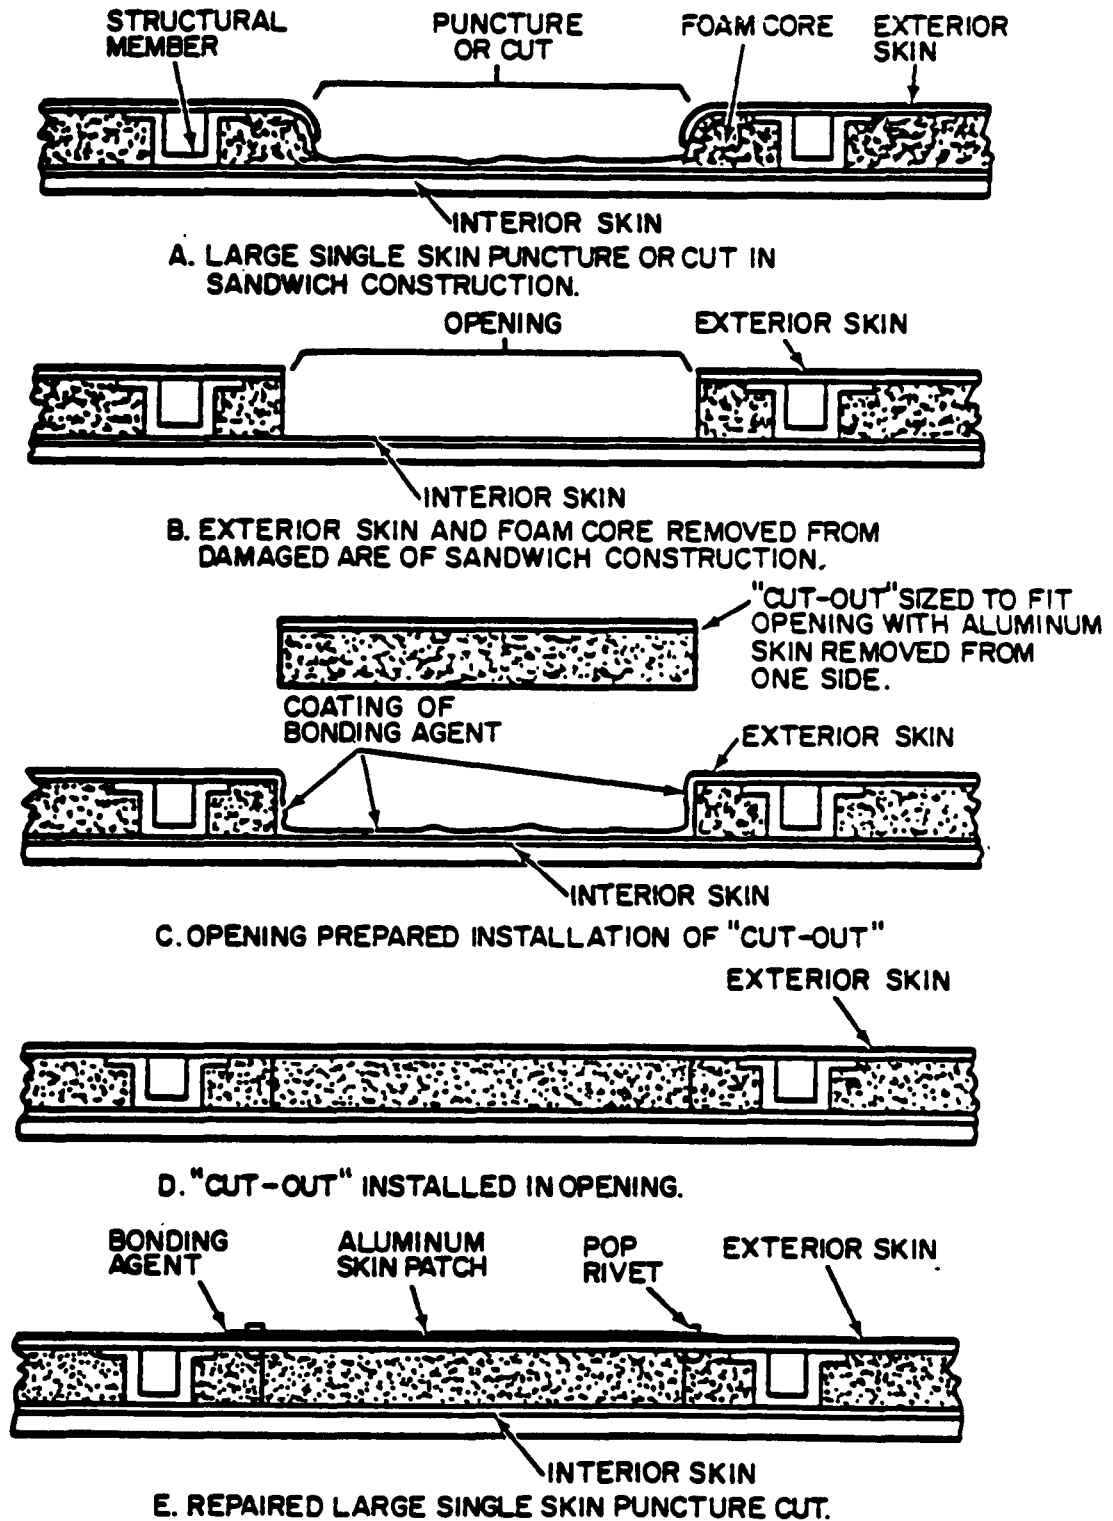

Figure 4-5. Shelter Wall Repair of Large Skin Puncture or Cut.
###### Repair. (Figure 4-5)
- (1) Select an aluminum skin patch that overlaps the puncture or cut by one inch in all directions.
- (2) Use the aluminum skin patch as a template positioned over the puncture or cut, and lightly scribe the area of the aluminum skin patch on the skin of the shelter.
- (3) Use a saw to cut and remove the punctured or cut skin area approximately one inch within the scribed mark (A and B, Figure 4-5).
- (4) Cut the foam core evenly along the edges where the skin is removed and remove the damaged foam core (B, Figure 4-5), maintaining perpendicular and straight edges.
- (5) Select a piece of block insulation or a cutout of the same type sandwich construction (C, Figure 4-5).
- (6) Size the block insulation or cutout to fit the opening where the skin and foam were removed. If a cutout is used, remove the aluminum skin from one side of the cutout.
- (7) Remove all paint or foreign matter from the overlap area on the skin of the shelter and an area approximately one inch around the scribed mark using emery cloth and cleaner. If the cutout is used, remove all paint or foreign matter from the aluminum skin of the cutout.
- (8) Roughen the skin surface with coarse grit emery cloth. If a cutout is used, roughen the surface of the aluminum skin.
- (9) Coat the interior of the opening where the skin and foam core were removed with mixed adhesive (paragraph 4-7.b.(4)).
- (10) Insert the block insulation or cutout into the opening where the skin and foam core were removed (D, Figure 4-5).
- (11) With the aluminum patch over the puncture area, drill #30 holes, around the perimeter of the patch, 1/2 inch from edge of patch and on one inch centers.
- (12) Coat the exposed block insulation or cutout and the overlap area with mixed adhesive.
- (13) Dip the pop rivets in the mixed adhesive and use the riveting tool for pop rivets to install the aluminum skin patch as shown (E, Figure 4-5).
- (14) Smooth and taper mixed adhesive (squeezed out during the riveting process) along the edges of the aluminum skin patch and immediately remove excess mixed adhesive with cloth saturated in toluene solvent.
- (15) Prime and paint the repaired surface. (Refer to paragraph 4-12.)
- (16) Inspect the repaired area to ensure that rivets and paint were applied correctly.